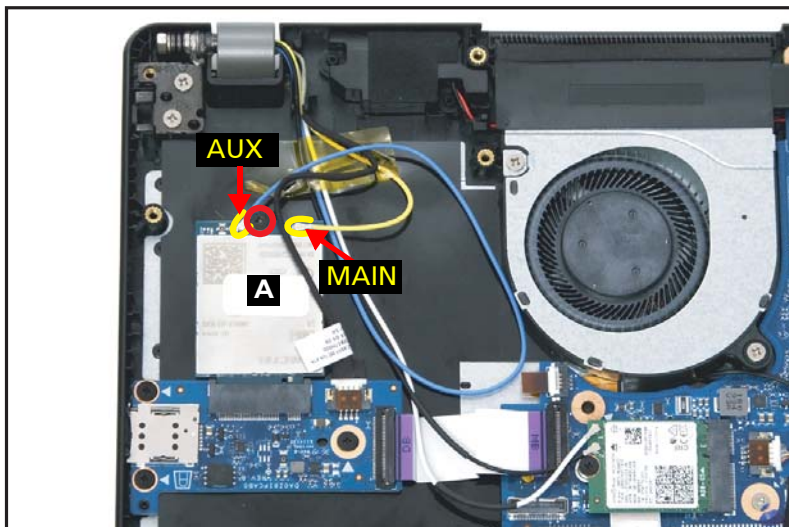

Figure 1-19. LTE Module Removal
1. Find the LTE module (A) on the top assembly (Figure 1-19).
2. Disconnect the MAIN antenna cable (yellow-color) from the LTE MAIN pin (Figure 1-19).
3. Disconnect the AUX antenna cable (blue-color) from the LTE AUX pin (Figure 1-19).
4. Remove one (1) screw securing the LTE module in place (Figure 1-19).